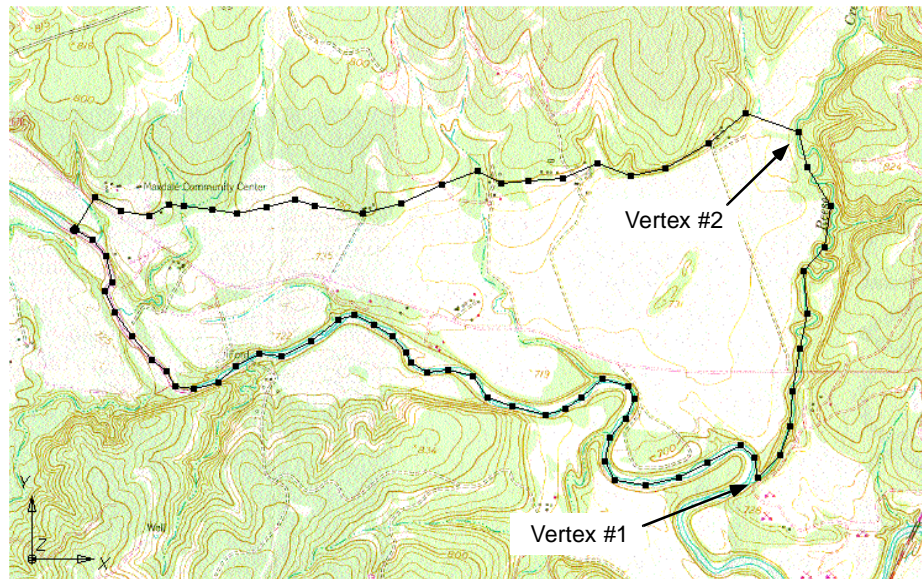

Figure 7.4 Convert Vertices to Nodes.
2. Select the two vertices shown in Figure 7.4. Vertex #1 is located at the junction of the two rivers. Vertex #2 is located at the top of the river on the east side of the model. To select both vertices at once, select the first vertex and then hold down the *Shift* key while selecting the other vertex.